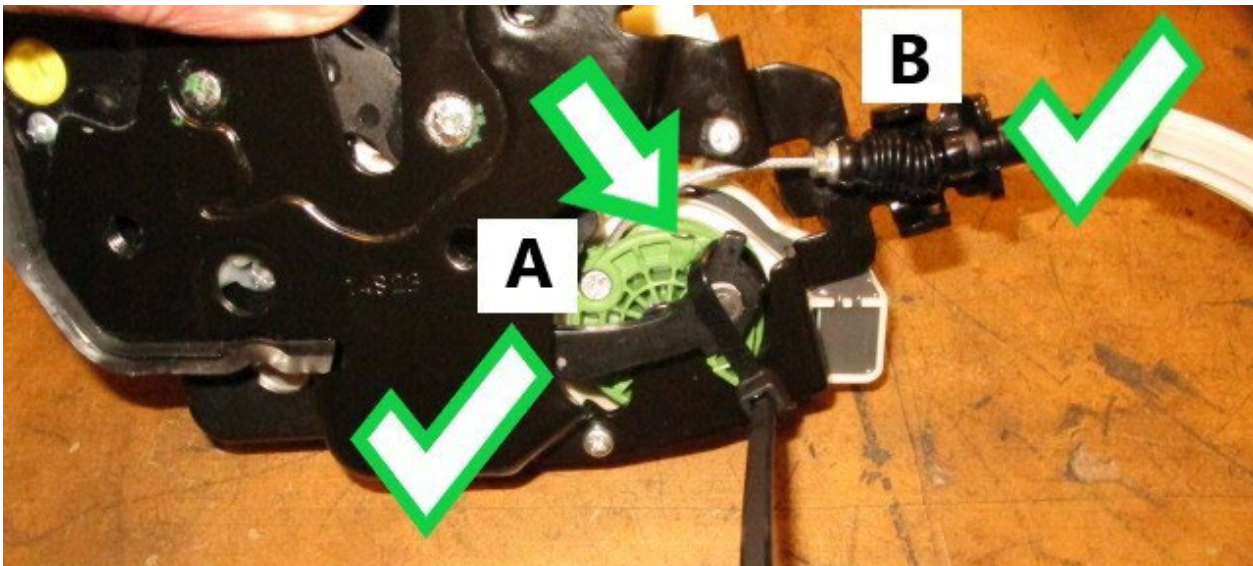

Figure 15
11) Referring to Figure 15 - Fit / locate the cable barrel end into the spool (A) ensuring the barrel end is fully located into the spool
- Push / fit the outer cable housing into the bracket (B)